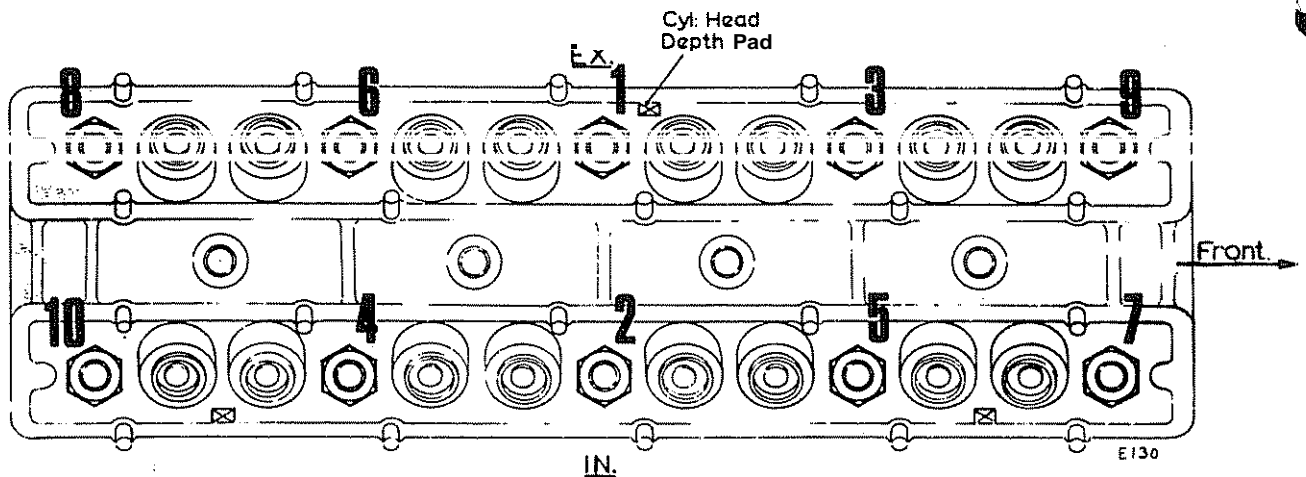

Fig. 14 Cylinder Head Nuts tightening/loosening sequence
10. Loosen the cylinder head nuts evenly, starting with the outer **nuts** and work inward diagonally. See figure 14, start at the highest number and progress downward. Remove nuts and washers. Remove the cylinder head **and** the cylinder head gasket.